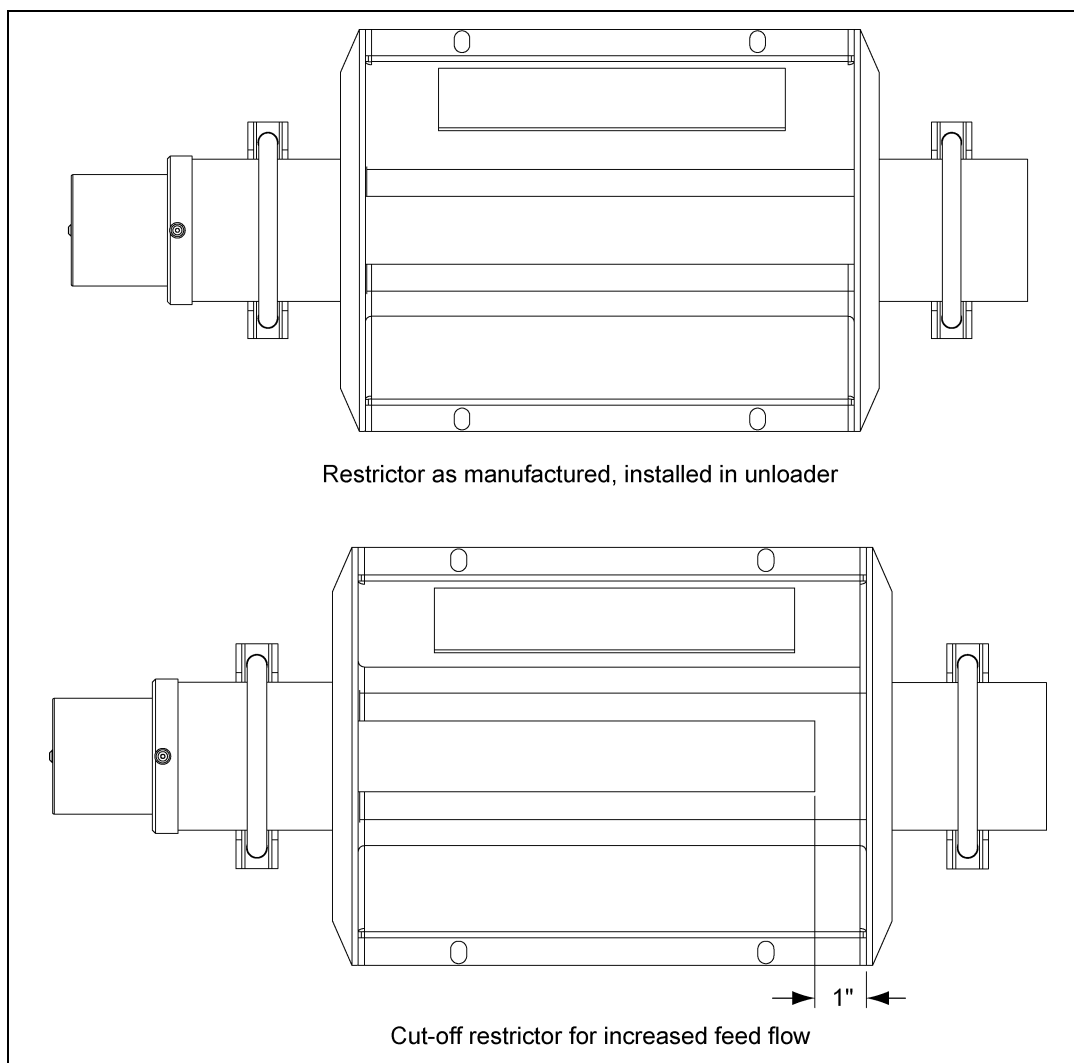

Figure 5G Restrictor Adjustment
2. Cut 1" (2.5 cm) from the restrictor. *(See Figure 5G.)*